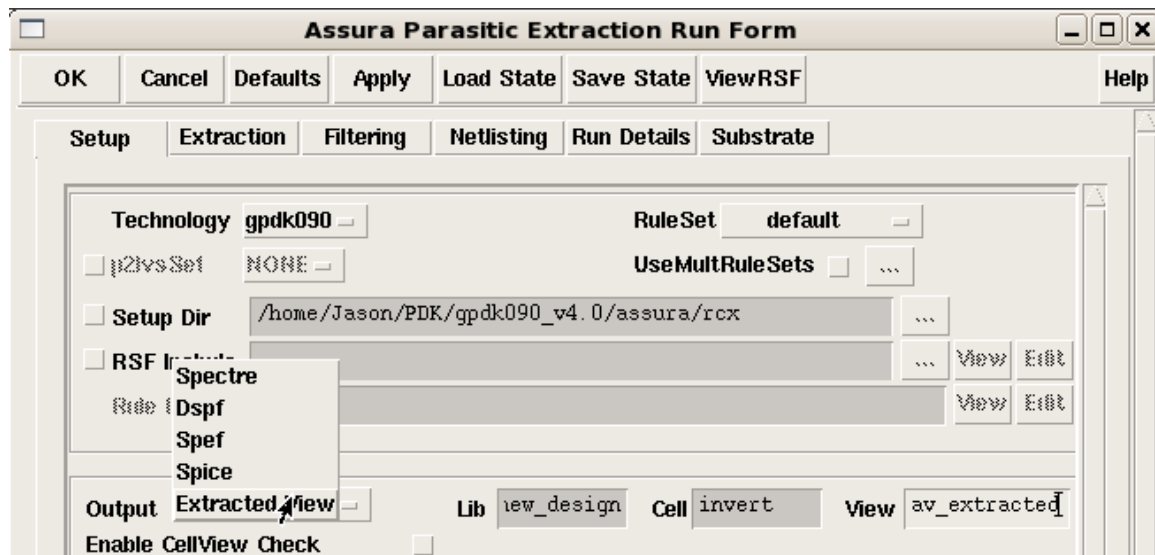

Fig.23
2. Select “Output” to “Extracted View” in “setup” folder of Assura RCX window to output extract result to “av_extracted” view (Fig 23).